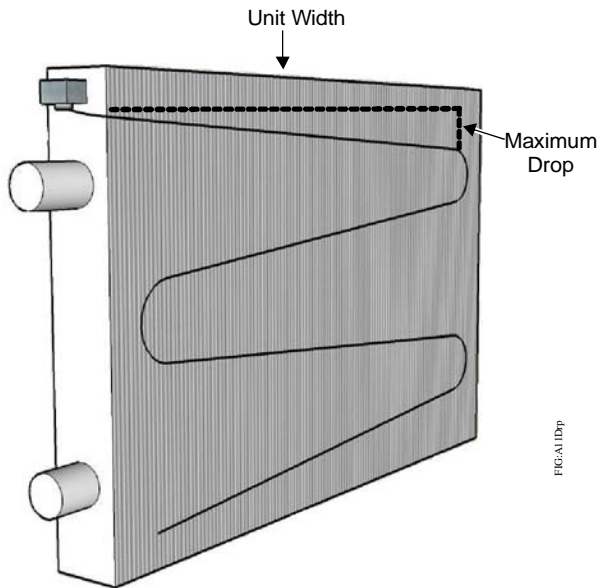

Figure 1: Mounting Sensing Element Inside Coil
Locate the bulb on the downstream side of the coil with the bulb exposed to all areas where low temperatures are likely to be encountered. Horizontally serpentine the 20 ft (6.1 m) long sensing element across the face of the coil to sense temperatures in all areas. The horizontal pitch of the coil should not exceed five degrees (one inch per foot) for those areas to be protected. See Figure 1.
- Mount the sensing element with a slight decline of approximately 1 inch (25 mm) for every 1 foot (305 mm) of drop, as illustrated in Figure 1 and listed in Table 1.
Once you determine the proper location, follow these guidelines to mount an A11 Series low temperature cutout control (also see Figure 1):